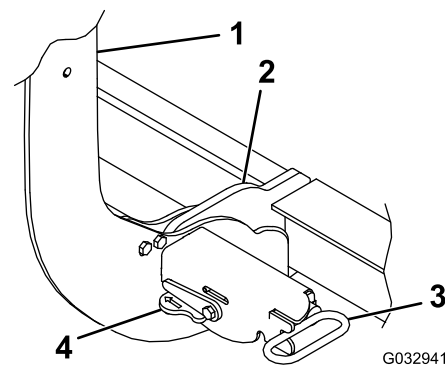

Figure 34
3. Turn the levers on the couplers to the ON position (Figure 34).
6. Ensure that both coupler spring pins have fully engaged the coupler (Figure 34).